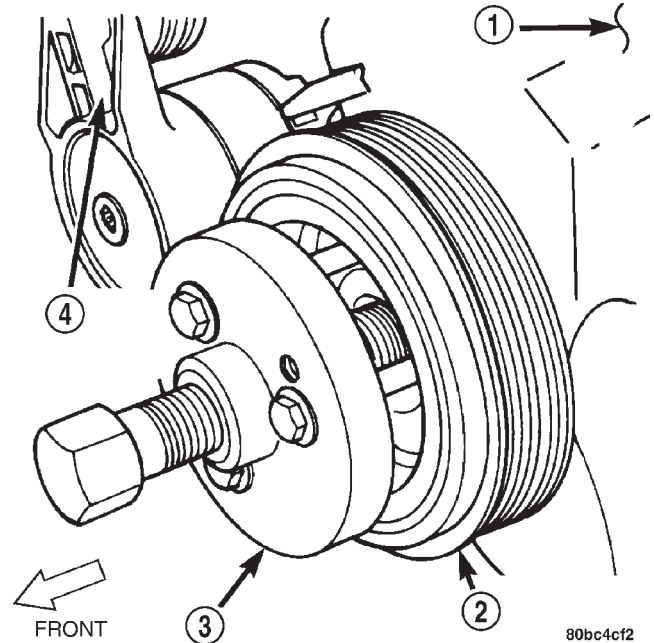

Fig. 75 VM.1000-A
- (1) Disconnect the negative battery cable.
- (2) Remove the fan and set fan inside fan shroud then remove fan shroud and fan as an assembly.
- (3) Remove the accessory drive belt. Refer to Group 7, Cooling System for procedure.
- (4) Remove the vibration damper nut.
- (5) Install special tool VM.1000-A to remove the vibration damper (Fig. 75).